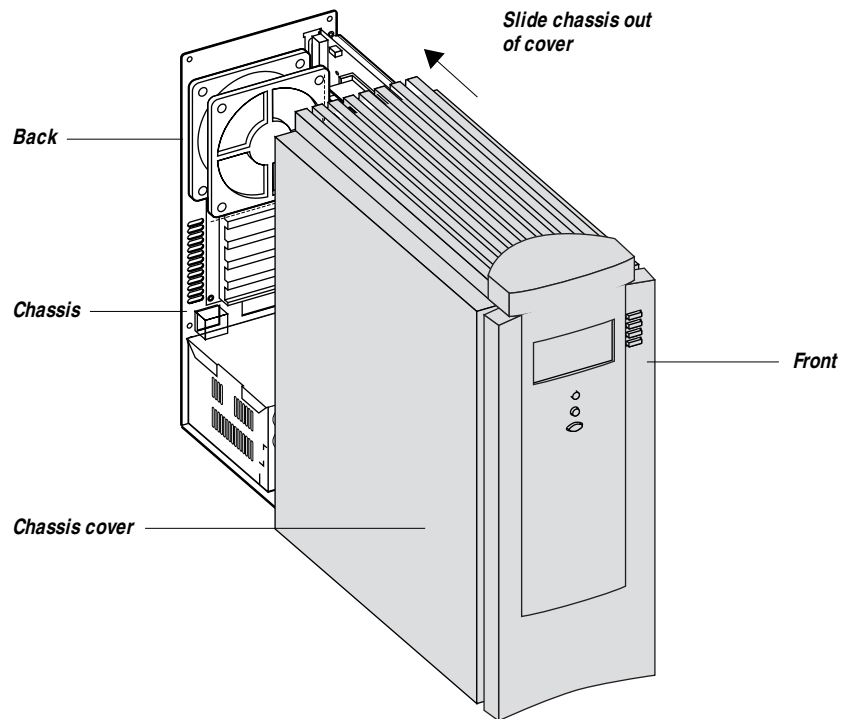

Figure 5-3 Removing the Fiery XJ-R/R2 chassis cover
5. ***Pull the chassis out of the chassis cover (see Figure 5-3 on page 5-5). The internal components of the Fiery XJ-R/R2 are now accessible.***